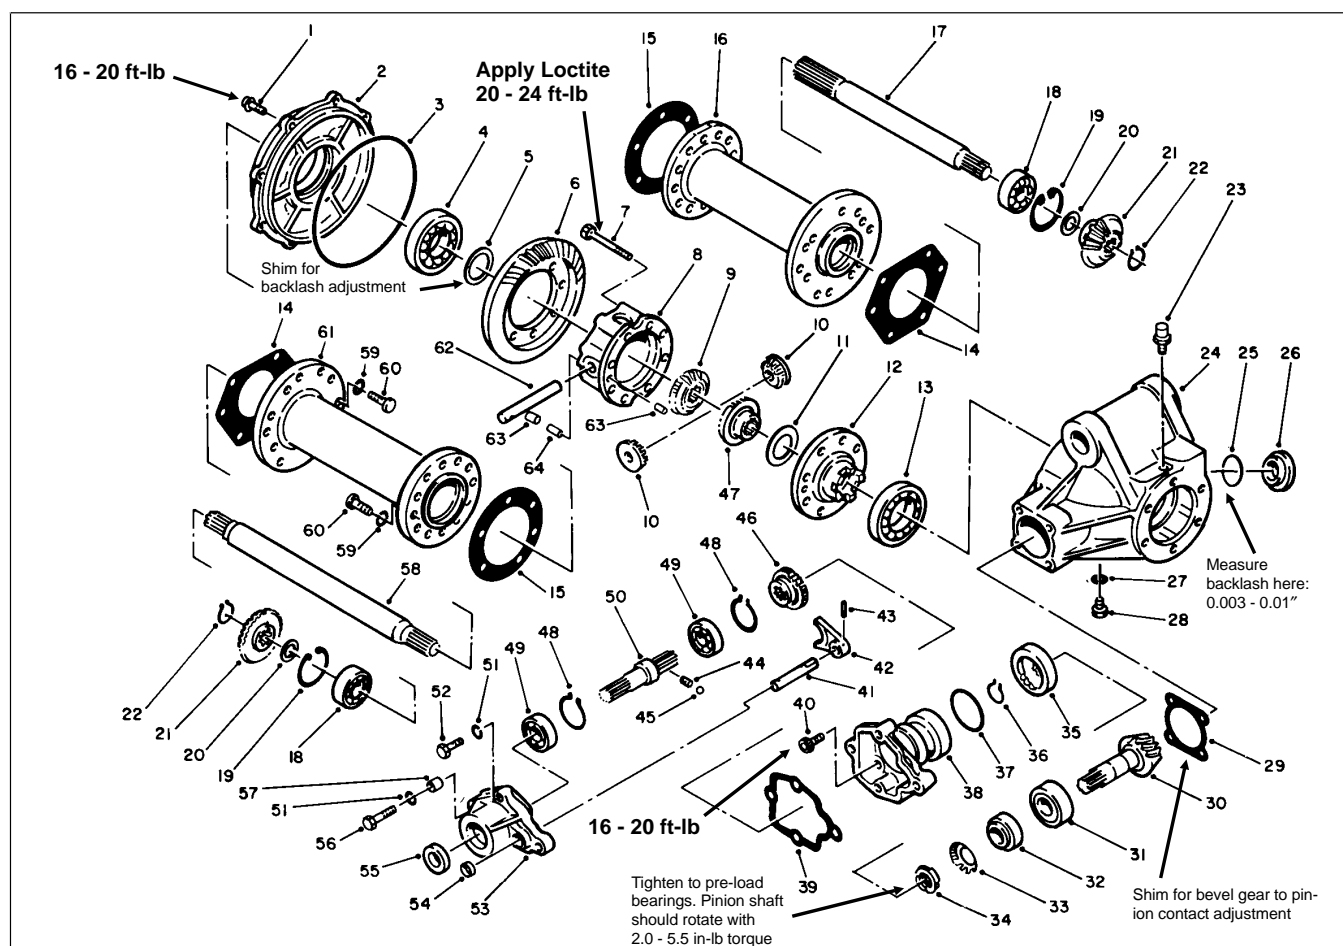
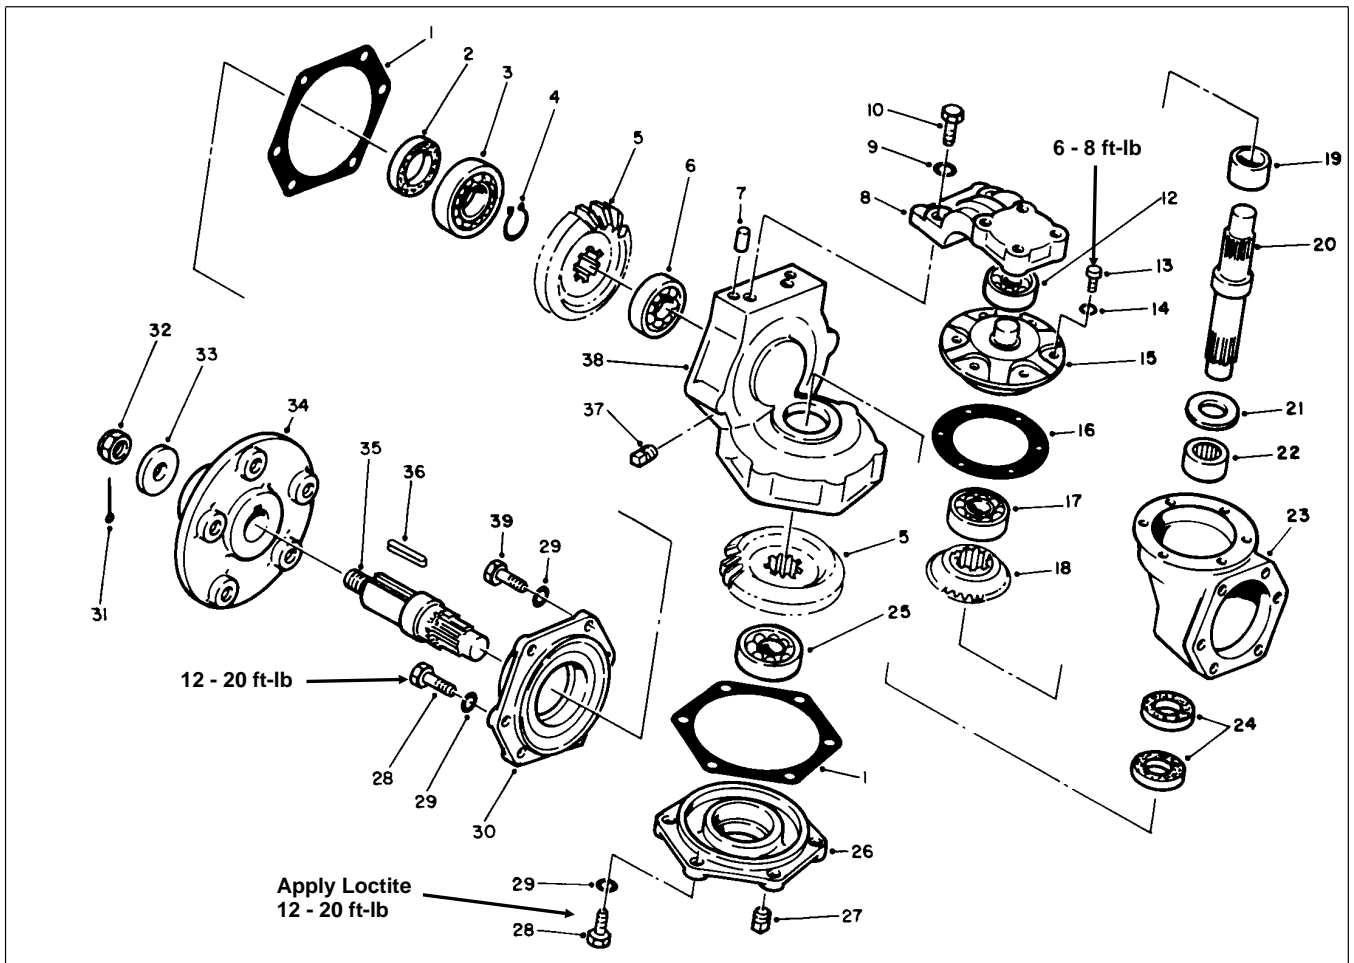

Figure 12
Figure 13
1. Remove bolts (Fig. 12, Item 60) securing axle tubes (Item 16, 61) to differential case (Item 24). Separate axle tubes and axles from differential case.
2. Remove bolts (Fig. 12, Item 60) securing axle tubes (Item 16, 61) to gearbox housings (Fig. 13, Item 23) of knuckle assemblies. Separate axle tubes and axles from knuckle assemblies.
3. Disassemble knuckle assembly (Fig. 13):
4. Disassemble differential case (Fig. 12):
2. Assemble differential case (Fig. 12):
C. Adjust tooth contact of bevel gear (Item 6) to pinion (Item 30). Use shims (Item 29) to make good contact with light load between bevel gear and pinion (Fig. 13).
3. Assemble knuckle assembly (Fig. 13):